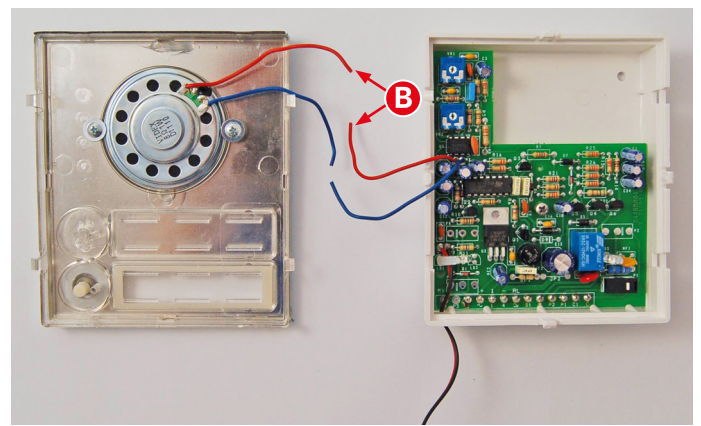

Fig. 11
4. Take a pair of wire cutters and cut the **red** and **blue** speaker wires, as shown in **Fig.11, B**.